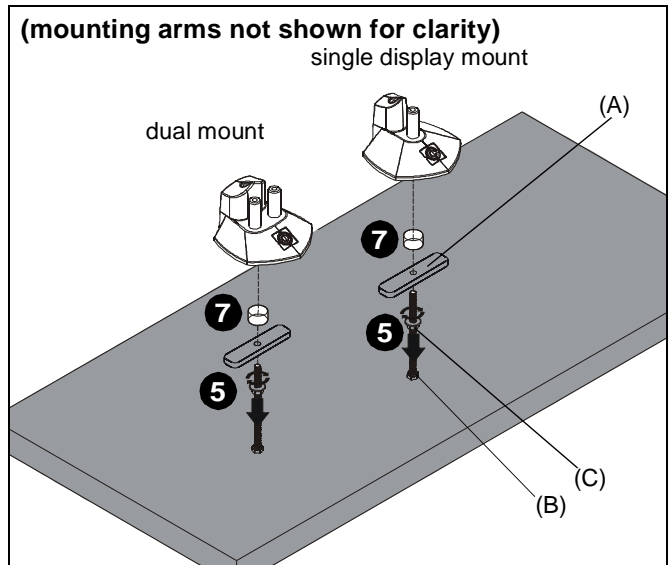
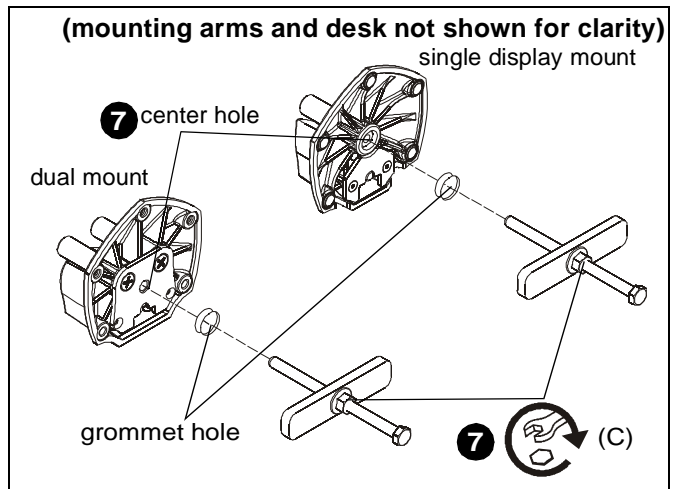

Figure 2
Figure 3
5. Thread 5/16-18" hex flange nut (C) onto 5/16-18 x 5" hex head bolt (B). (See Figure 2)
6. Position mount on desk so that threaded hole is centered over grommet hole. (See Figure 2)
7. Insert 5/16-18 x 5" bolt (B) through grommet bracket (A), grommet hole and thread into center hole on underside of mount as far as possible. (See Figure 2) and (See Figure 3)
8. Tighten hex flange nut (C) until grommet bracket (B) is tightened against underside of desk. (See Figure 3)